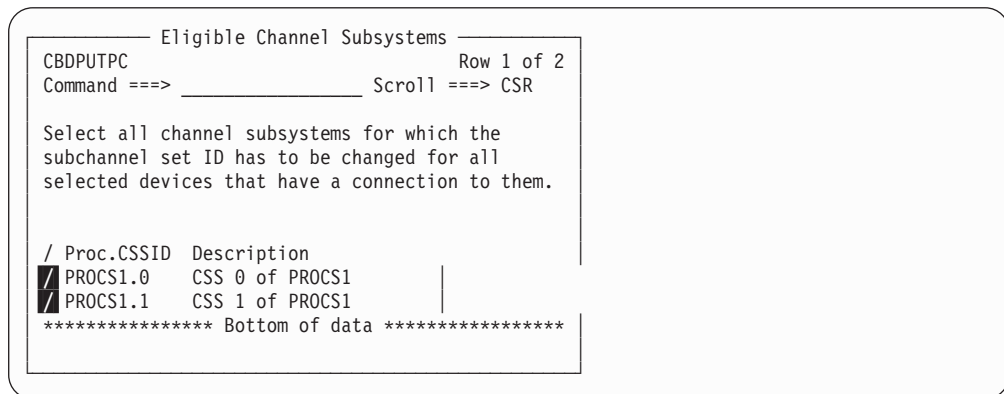

Figure 17. Eligible Channel Subsystems
3. Press Enter to display panel **Eligible Channel Subsystems** (Figure 17). Select all of the channel subsystems for which you want to change the subchannel set ID.